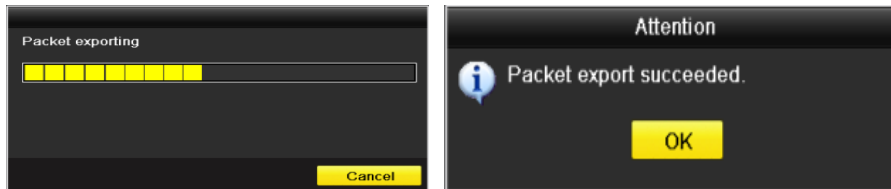

Figure 10-27 Packet Export Attention
Step 5 After the exporting is complete, click **OK** to finish the packet export, as shown in Figure 10-27.